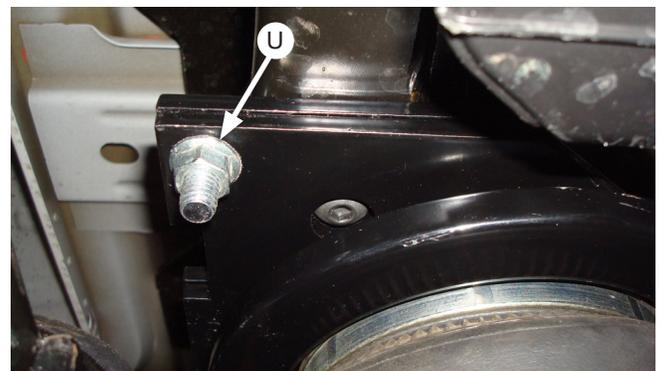
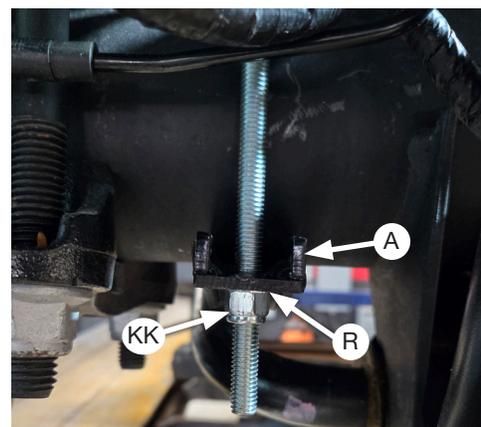

Fig. 34
Fig. 35
- Before proceeding, ensure the 90-degree fittings are pointing inboard toward the center of the vehicle. While raising the axle or lowering the body of the vehicle, align the previously installed upper frame bracket carriage bolts (including the one on the air spring bracket) with the air spring bracket/frame brace holes so the carriage bolts protrude. Cap all the carriage bolts with the 3/8" Serrated flange lock nuts (U) (Fig. 34). Snug the bolts down first, then torque to 31 lb.-ft. (42Nm).
- Torque the M10 serrated flange lock nut (CC) on the driver's (left) side brace to 37 lb.-ft. (50Nm).
- Set the lower clamp bars (A) over the carriage bolts located under the axle, the higher portion of the lower clamp bar needs to go towards the front of the vehicle (Fig. 35). Attach with 3/8" flat washers (R) and nylon lock nuts (KK). Evenly torque the lower clamp bar hardware to 16 lb.-ft. (22Nm).